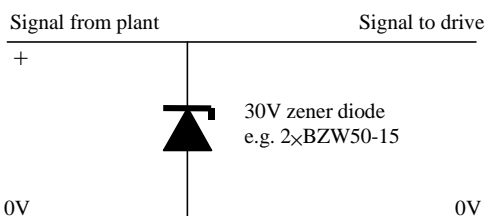

Figure 1: surge suppression for digital and unipolar analogue inputs and outputs
3. Additional over-voltage suppression – for the analogue and digital inputs and outputs, a zener diode network or a commercially available surge suppressor may be connected in parallel with the input circuit as shown in Figures 1 and 2.